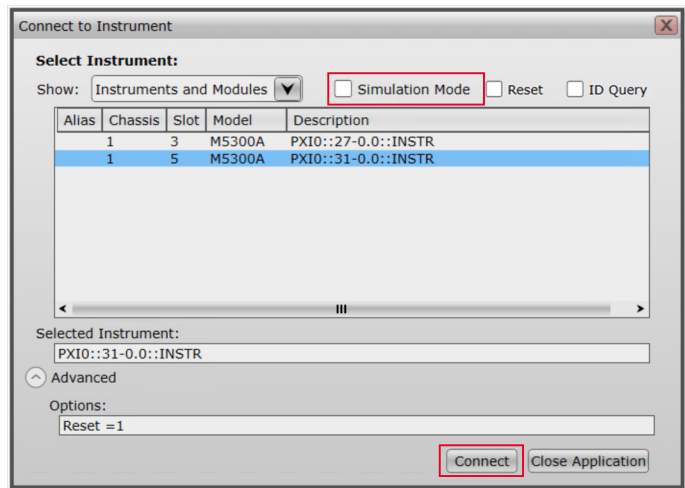

Figure 33 Connect to Instrument with "Simulation Mode" disabled
- ‘Simulation mode’ disabled—This is the active mode of SFP operation and is available when the **Simulation Mode** check box is manually cleared. The **Simulate** button is replaced with the **Connect** button on the **Connect to Instrument** window, as shown in Figure 33. In this mode, only the active modules are displayed along with the respective chassis number, slot number and VISA address.